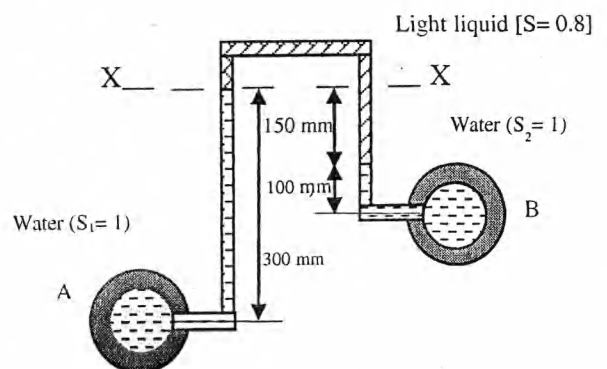

Figure 1
8. **Figure 1** shows an inverted differential manometer having an oil of specific gravity 0.8 connected to two different pipes carrying water under pressure. Determine the pressure in the pipe B. The pressure in pipe A is 2m of water. [3]